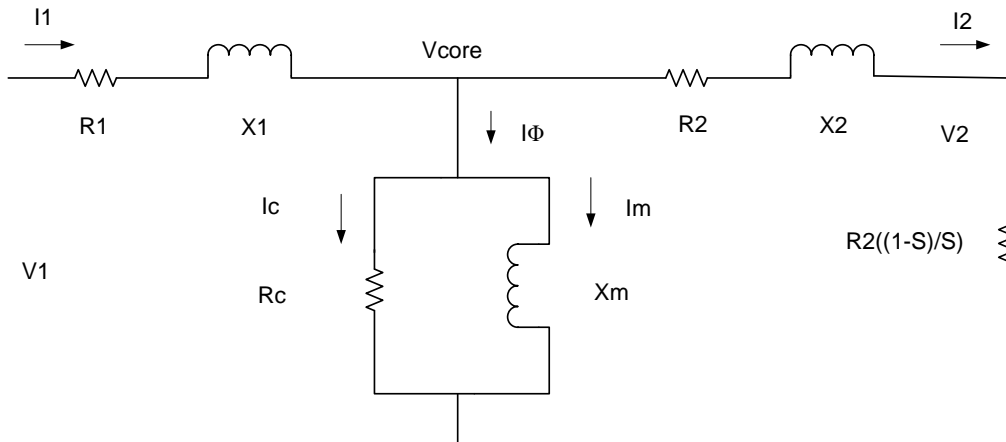

Figure 1
1. Derive a single phase equivalent circuit in Figure 1 for the tested machine. Assume a NEMA "D" motor. Set $R_1 = R_2$, and $X_1 = X_2$ in the equivalent circuit.
3. Write a matlab program using the equivalent circuit. You must use the equivalent circuit in figure 1, include all branches and components R₁, R₂, R_C, X_m, X₁, and X₂. Plot torque vs. speed in RPM curves and current vs. speed in RPM for 80%, 90% and 100% of rated voltage as speed varies from 1 to 1799 RPM. **Note:** Plot the three different voltage cases for output torque on the same plot. **Hint** use **figure** command to plot the three curves on the same plot. Plot the three different voltage cases for current on the same plot. Compare the calculated data with the measured data include MATLAB program listing and plot output. **Hint** the fluke meters in the lab measure the magnitude of voltage and current.